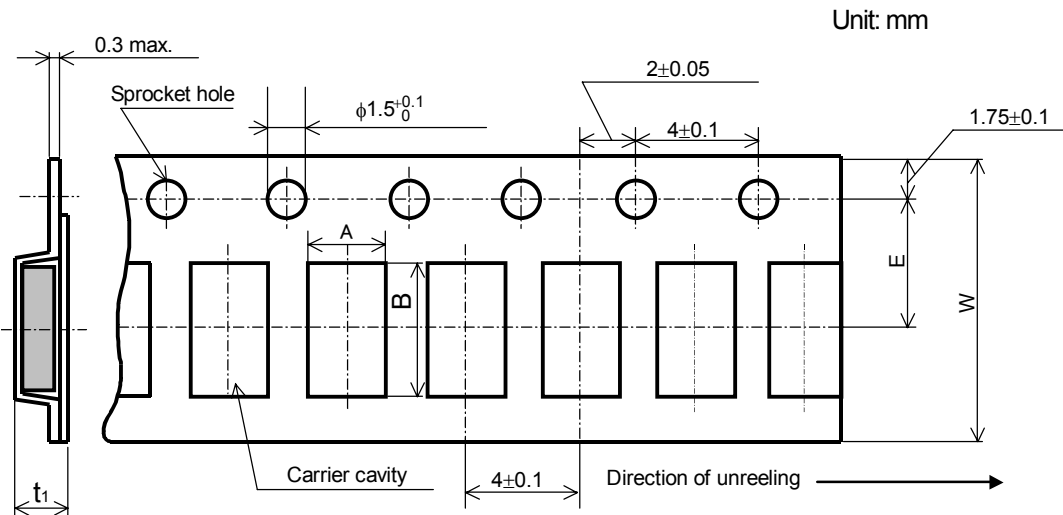

Figure-10
10.2.4 Embossed taping dimensions shall be in accordance with Figure-10 and Table-8.